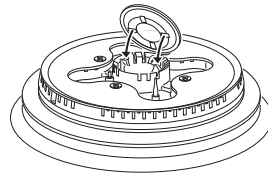

Fig. 38b Positioning the central small cap
- Position the small central cap in its housing as shown by the arrows in Fig.38b.